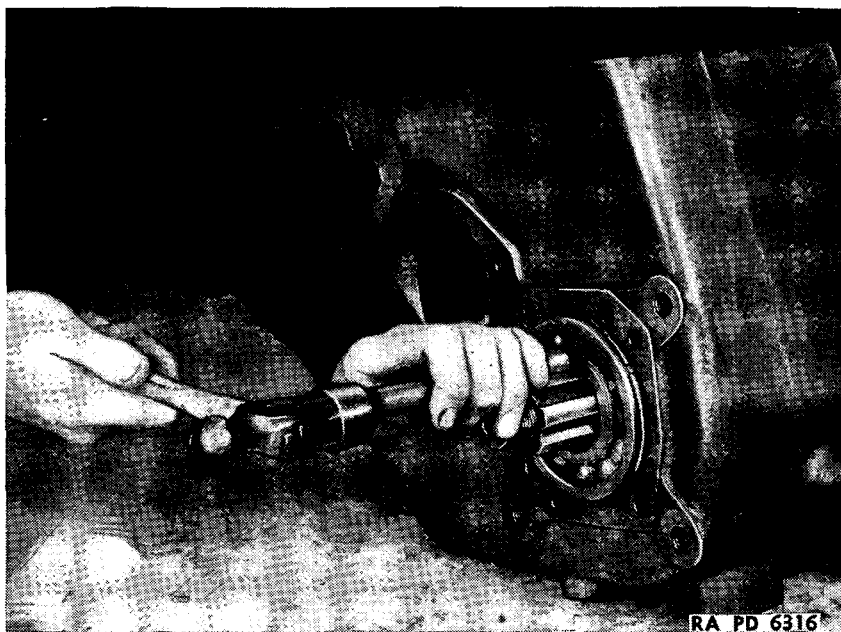
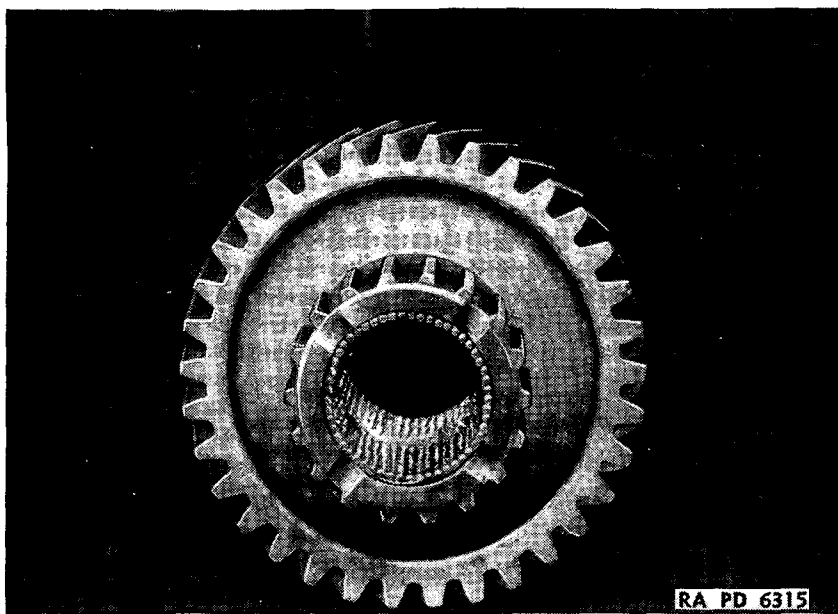

FIGURE 132.—Transfer case mainshaft rear bearing replacement.
FIGURE 133.—Needle bearings installed in intermediate shaft underdrive gear.
(6) Replace mainshaft rear bearing—brass drift, hammer, screw driver, pliers. Replace bearing snap ring onto bearing and drive bearing into position in case (fig. 132). After rear bearing is installed, hold it in place and drive front end of mainshaft until shaft is fully engaged in underdrive gear. Replace front pocket bearing on front end of mainshaft.
(7) Replace mainshaft rear bearing cap—oil seal replacer, hammer,  $\frac{5}{8}$ -inch socket wrench. Replace oil seal in cap and replace rear bearing cap, gasket, and four cap screws and lock washers.
(8) Replace intermediate shaft underdrive gear needle bearings. Grease bore of the intermediate shaft underdrive gear with a heavy and stiff grease and assemble 106 long needle bearings in two rows with needle bearing spacer between rows (fig. 133).